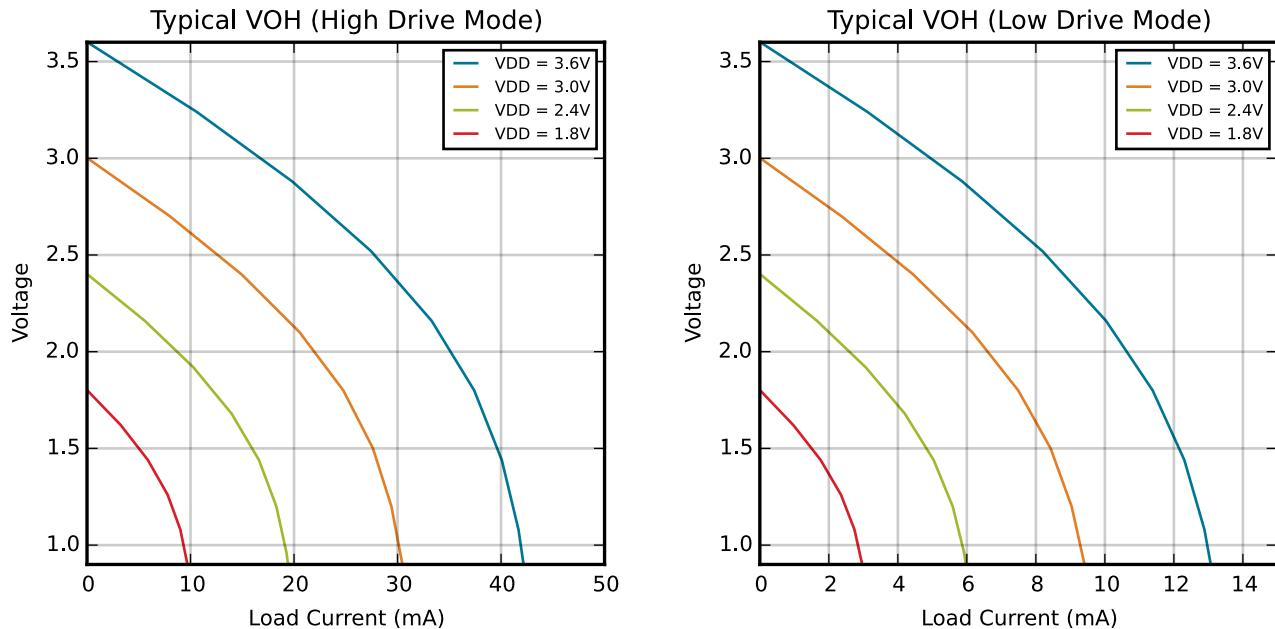
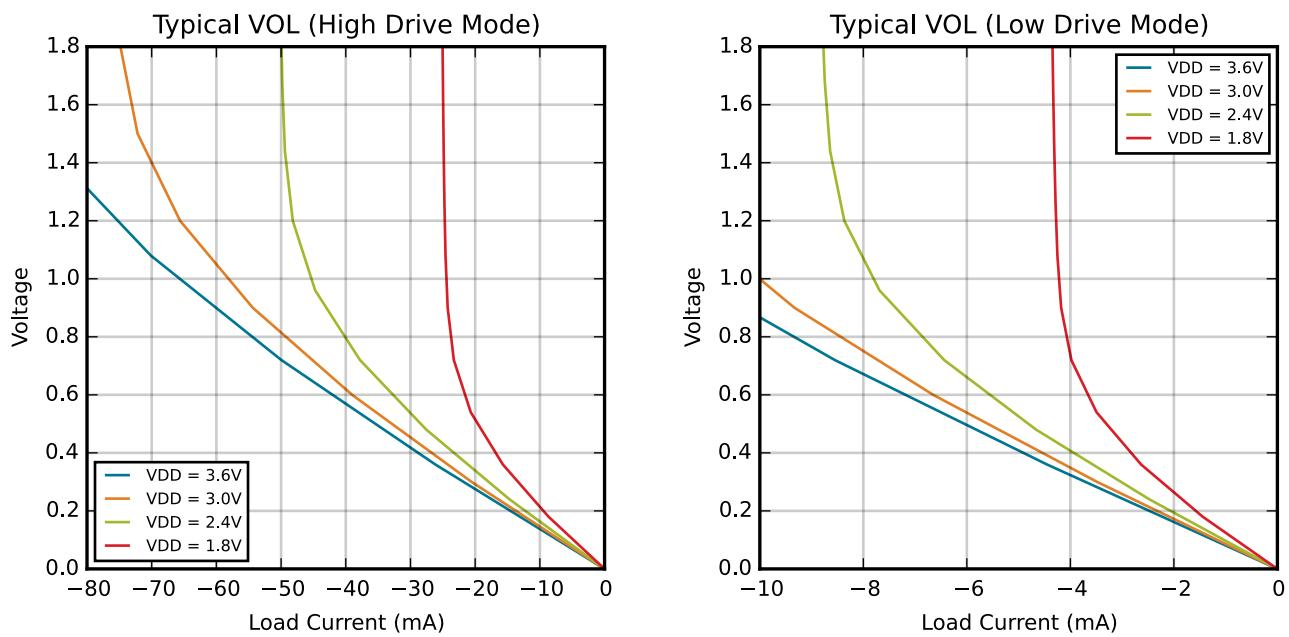

Figure 4.3. Typical VOH Curves
Figure 4.4. Typical VOL Curves
1. See Figure 4.3 Typical \$V_{OH}\$ Curves on page 29 and Figure 4.4 Typical \$V_{OL}\$ Curves on page 30 for more information.